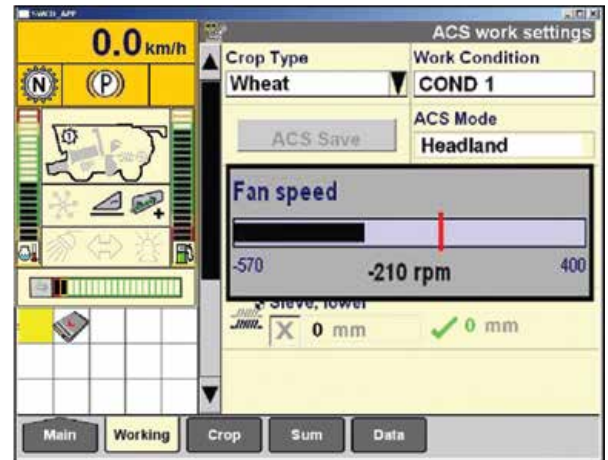

Figure 12.1
Adjustments are made using switches on the right hand console. As adjustments are made, pop-up windows are displayed to indicate current settings to the operator (see figure 12.1).
- When in Headland mode, values represent the difference between Harvest settings and the desired Headlands setting. (In figure 12.1, “-210” indicates a reduction off a speed of 210 rpm when in Headlands mode.)